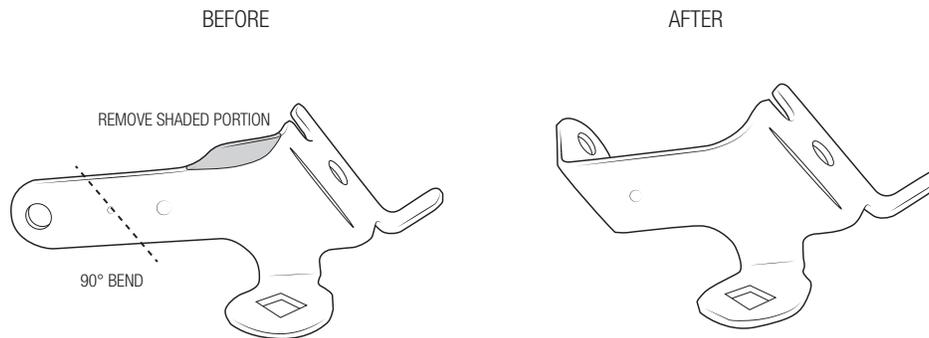

Figure 37
14. Remove horn and horn bracket located on inner fender next to the brake booster. Modify the bracket as shown in Figure 37 to relocate horn.